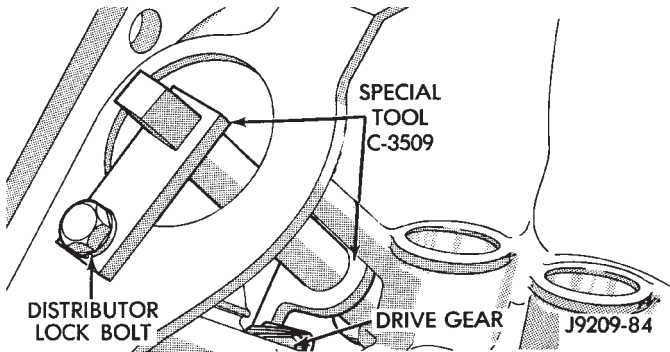

Fig. 30 Camshaft Holding Tool C-3509 (Installed Position)
(2) Install Camshaft Gear Installer Tool C-3509 with tongue back of distributor drive gear (Fig. 30).